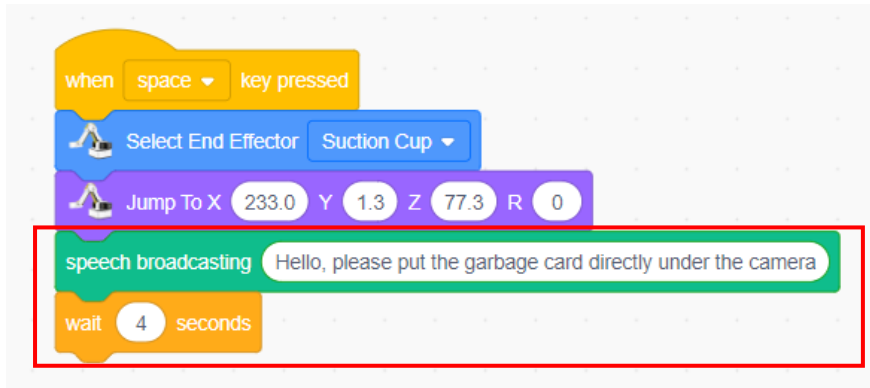

Figure 3.15 Voice prompt
Step 3: Select the "speech broadcasting (hello)" block, and the voice prompt "Hello, please put the garbage card directly under the camera", where the voice playback takes about 4 seconds. Select the "wait (1) seconds" block, and change 1 second to 4 seconds, as shown in Figure 3.15.